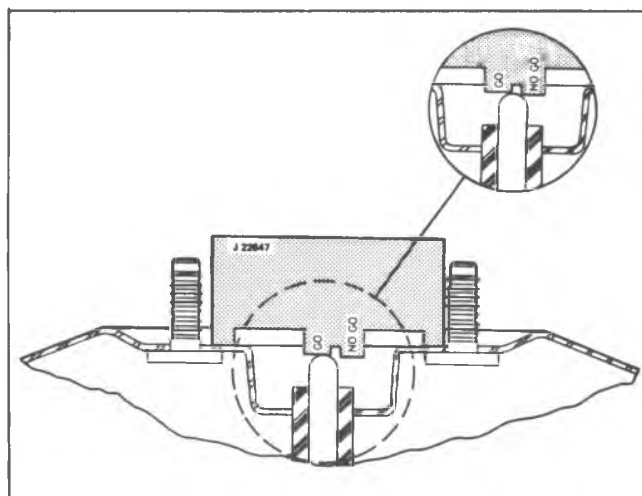

Fig. 5-11A-Gaging Piston Rod
4. Place Gage J-22647 over the piston rod in a position which will allow the gage to be slipped to the left or right without contacting the studs (fig. 5-11A).